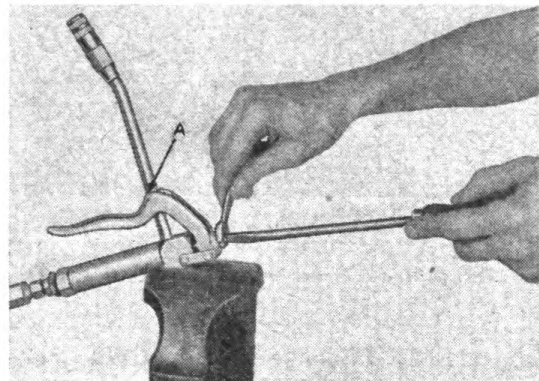

Figure 59
c. If control valve lever is too loose, loosen top lock nut and turn down set screw until there is 1/8" clearance at "A", Figure 59.